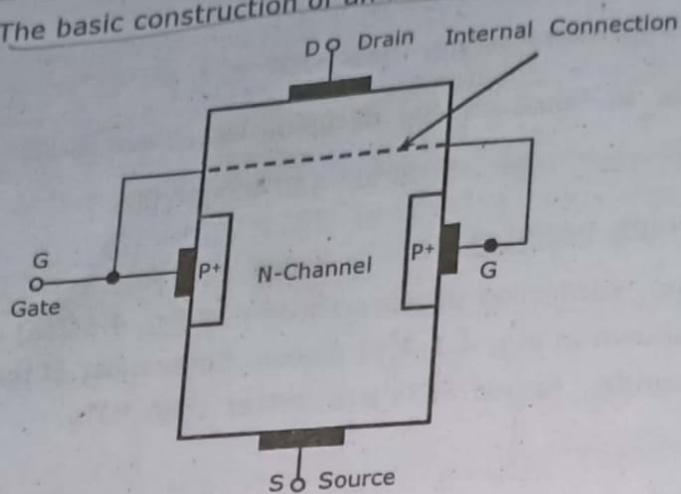

Fig. 4.2.1 N-channel J-FET
(1) **N-channel JFET** : The basic construction of an N-channel JFET is as shown in Fig. 4.2.1,
Fig. 4.2.1 shows the construction of N-channel JFET.